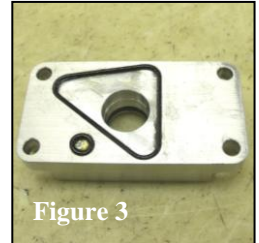

Figure 3
3. Adaptor Plate should appear as shown in Figure 3 prior to installation.